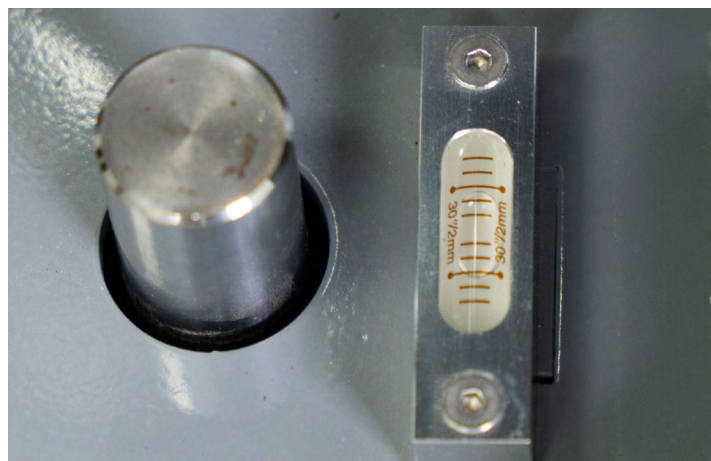

Figure 4
- d. Raise/Lower the rear of the machine until the Bubble in the sight is centered (Figure 4).